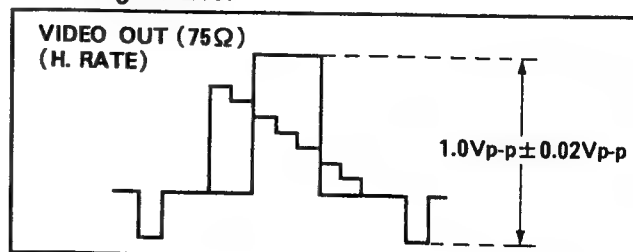

Figure E13
4. Adjust VR3002 for 1.0Vp-p \pm 0.02Vp-p as shown in Figure E13.